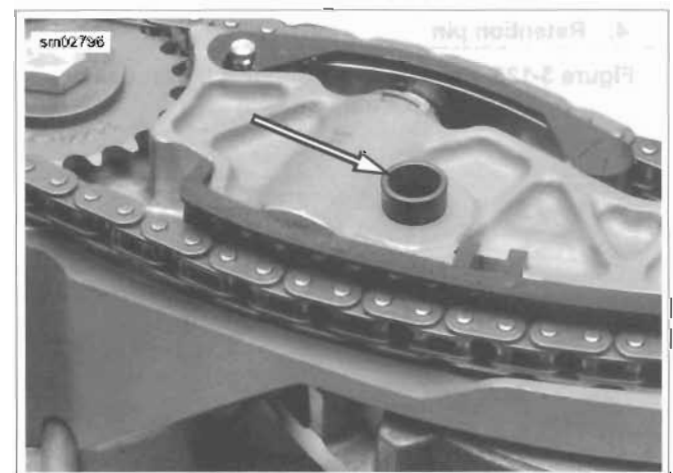

Figure 3-124. Rubber Interconnect
7. See Figure 3-124. Remove and discard rubber interconnect from balance shaft support assembly.